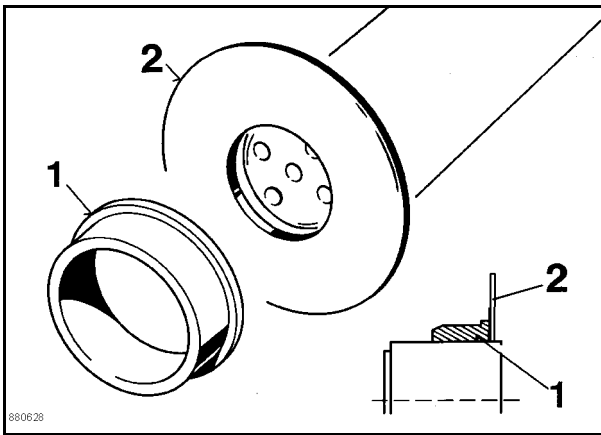

Fig. 4
5. Push on the sealing ring 2 (Fig. 4).